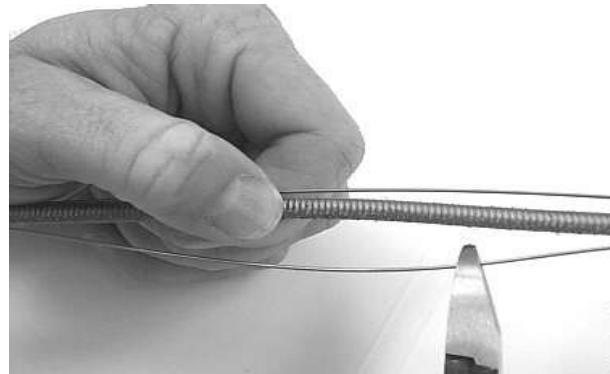

Figure 5 – Measure and cut the strength members.
4.6 Consult the splice closure instructions for the strength-member length required in the closure. Cut both strength members as required (Figure 5). Temporarily bend the strength members out of the way to avoid injury.